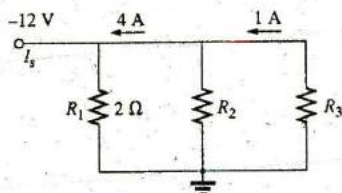

FIG. 6.87
17. Using the information provided in Fig. 6.87, find: